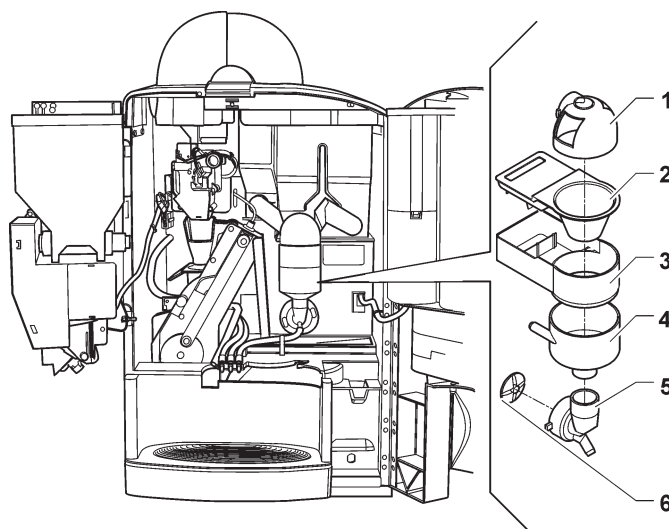

Fig. 8
- remove the powder and the water funnels, the feeders, the powder deposit drawers and the mixer impellers from the mixers (see fig. 8);